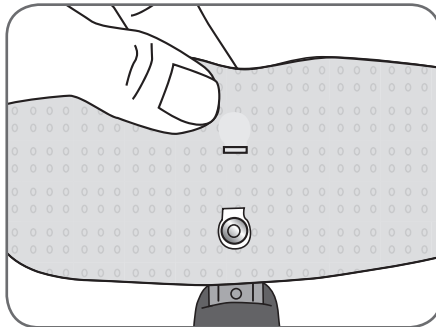

Figure 9-15: Pulling the silicone panels away from the electrode snaps.
4. Gently pull the silicone panels away from the cloth electrode snaps. See Figure 9-15.